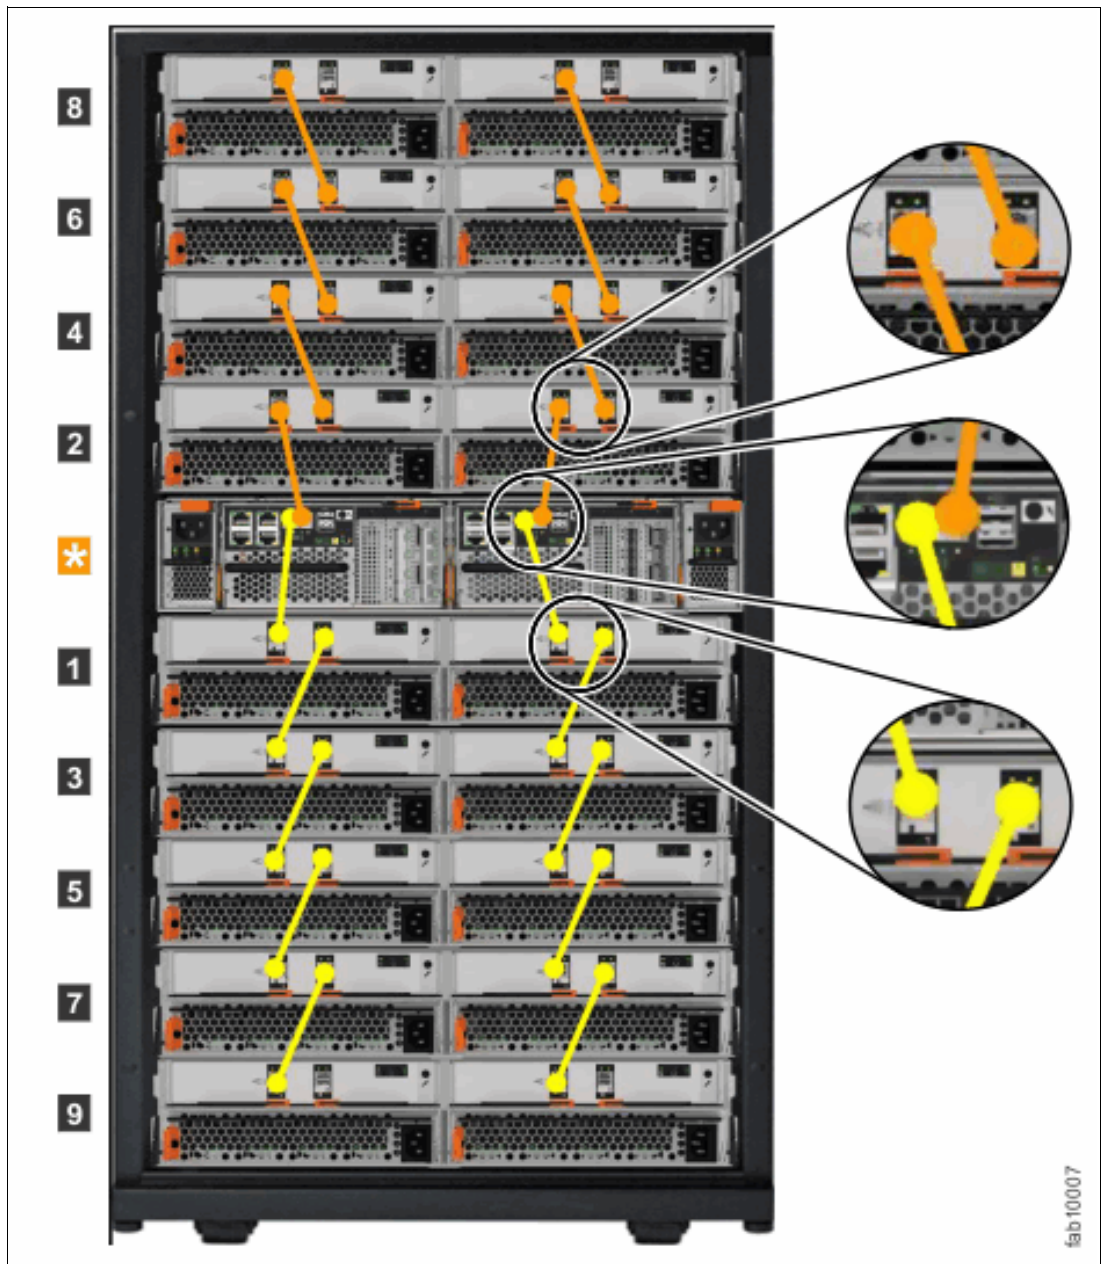

Figure 5-61 Connecting the SAS cables
1. Using the supplied SAS cables, connect the control enclosure to the expansion enclosure at rack position 1, as shown in Figure 5-61 on page 156:
2. To add a second expansion enclosure chain to the control enclosure, use the supplied SAS cables to connect the control enclosure to the expansion enclosure at rack position 2. See Figure 5-61 for an example.
3. If additional expansion enclosures are installed, connect each one to the previous expansion enclosure in a chain; use two Mini SAS HD to Mini SAS HD cables, as shown in Figure 5-61.